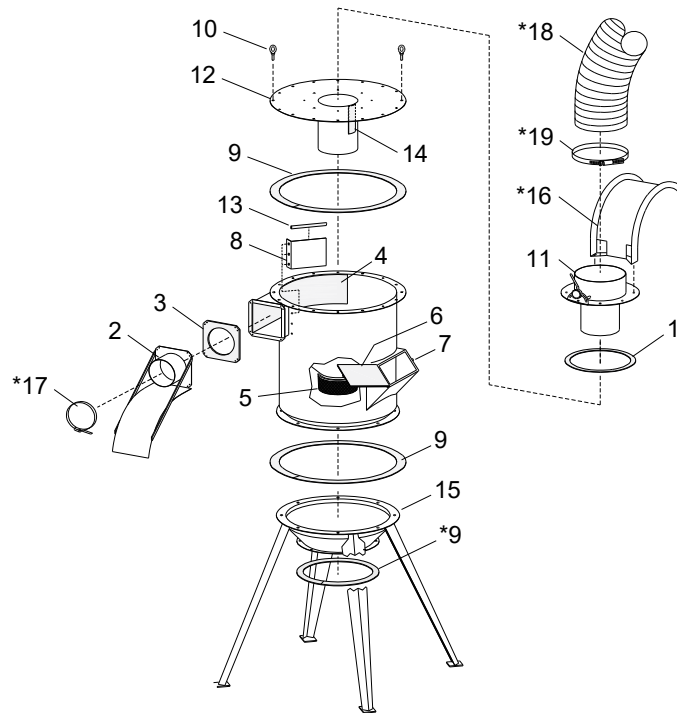

Figure 52
**9.13 1200 CFM Reclaimer, for 16" Diameter Blast Machine – Figure 52**